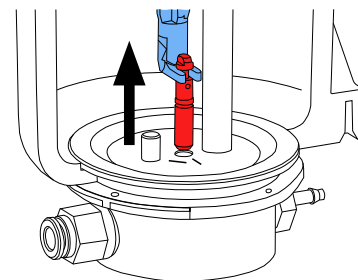

Fig. 12
- Hold the dosing nozzle with the tool and pull upwards (Fig. 12).